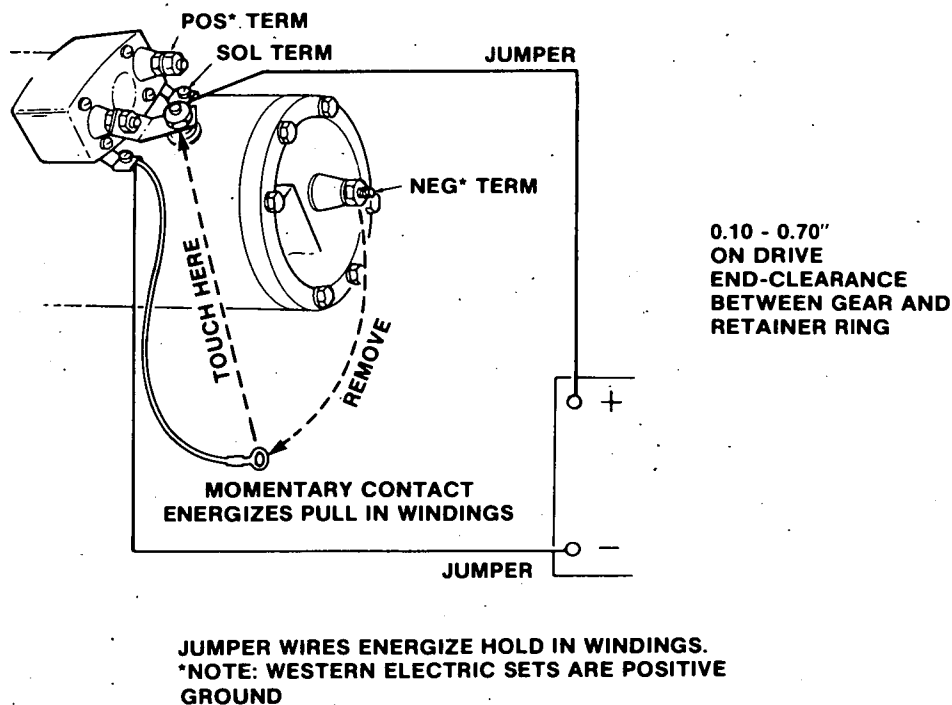

FIGURE 5-3. ENERGIZING STARTER
2. Connect a 24-volt battery to solenoid switch terminal to solenoid frame or ground terminal as shown in Figure 5-3.